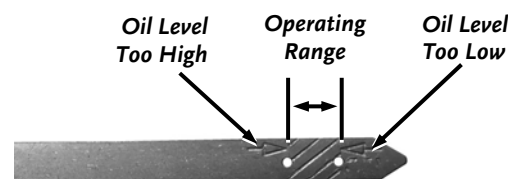

Figure 21
2. Remove the dipstick and check the oil level (**Figure 21**). If the oil level is below the Operating Range on the dipstick, slowly pour oil into the oil fill tube until the oil level reaches the Operating Range on the dipstick. Do not overfill. (See your Engine users manual for detailed information on Oil type and quantity)